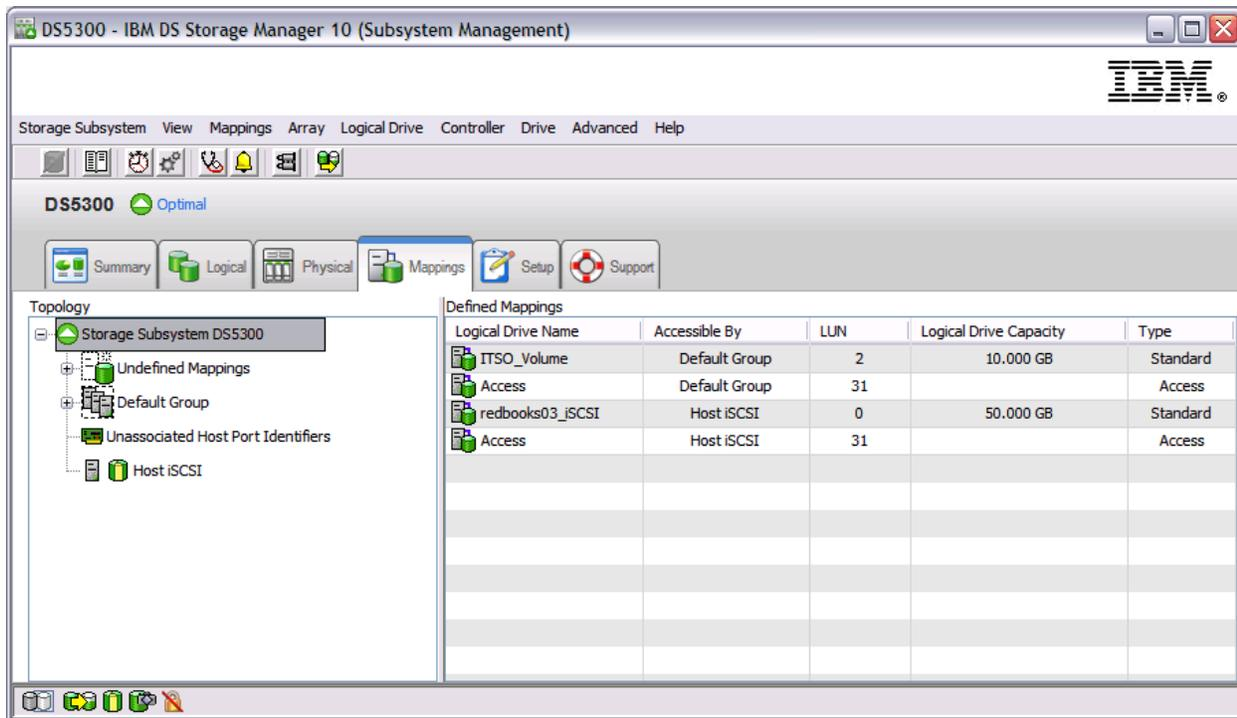

Figure 3-23 Mappings view
- All information, such as host ports and logical drive mappings, is shown and configured in the **Mappings View**. The right side of the window lists all mappings that are owned by the object you choose in the left side, as shown in Figure 3-23.